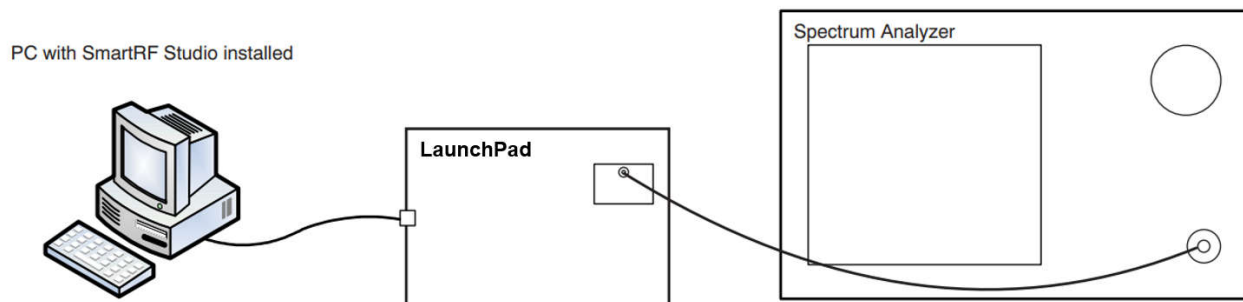
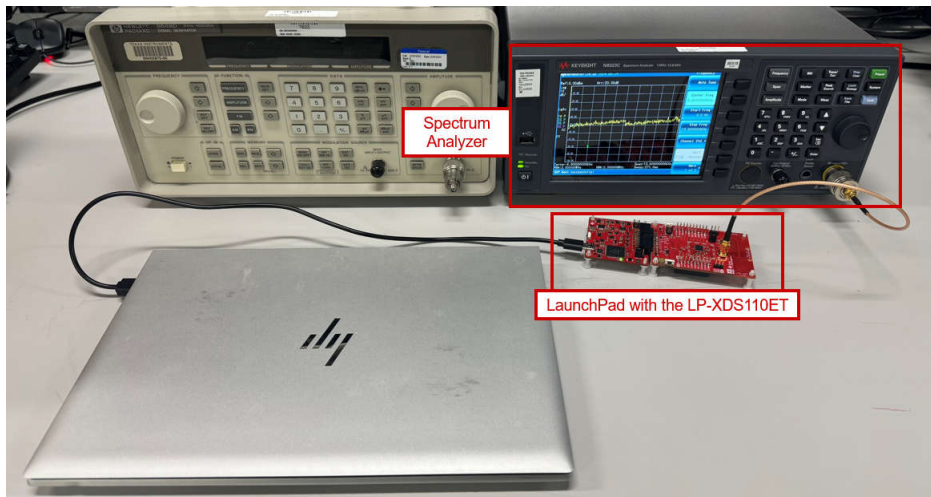

Figure 7-5. Power Spectral Density Mask Test Setup Diagram
Figure 7-6. Power Spectral Density Mask Test Bench Setup
Test Environment: Figure 7-5 shows the test setup.
- Step 1: Connect the instruments as shown on Figure 7-5 and Figure 7-6.